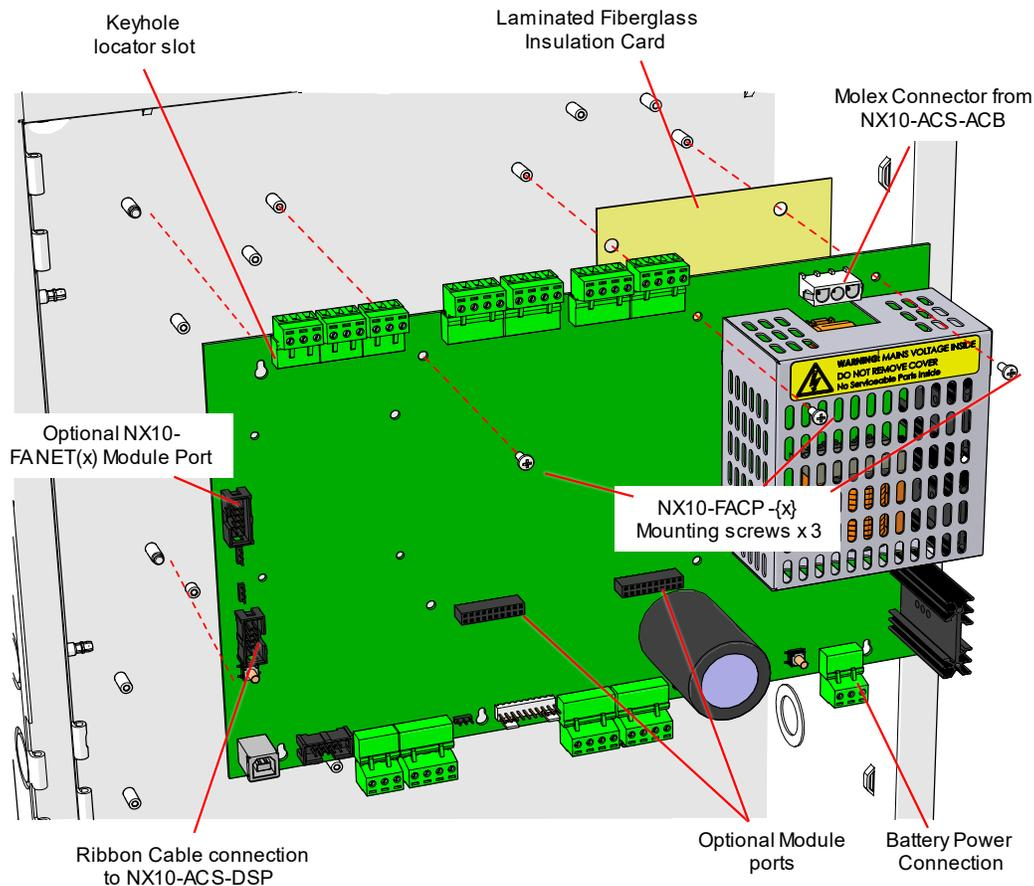

Figure 9 - NX10-FACP Base Card Installation
1. Place the laminated fiberglass insulation card in position on the backbox (Figure 9).
2. Carefully slide the NX10-FACP base card onto the five (5) top-hat stand-offs.
3. Install the three (3) panhead screws that secure the NX10-FACP base card to the backbox.